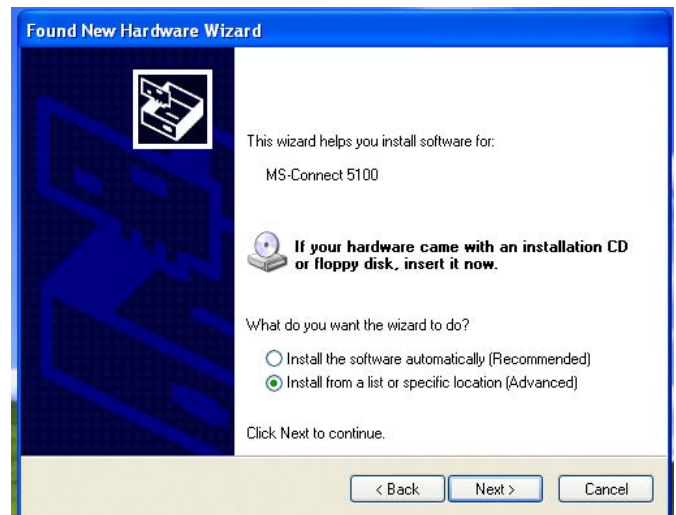

FIG. 14: Load Software from a Specific Location
3. FIG. 14 will appear. Insert the CD in your PC's CDROM drive. Select “Install the software from a list or specific location”, then click Next. The program location is C:\Program Files\Graco\GracoConfig\Device.